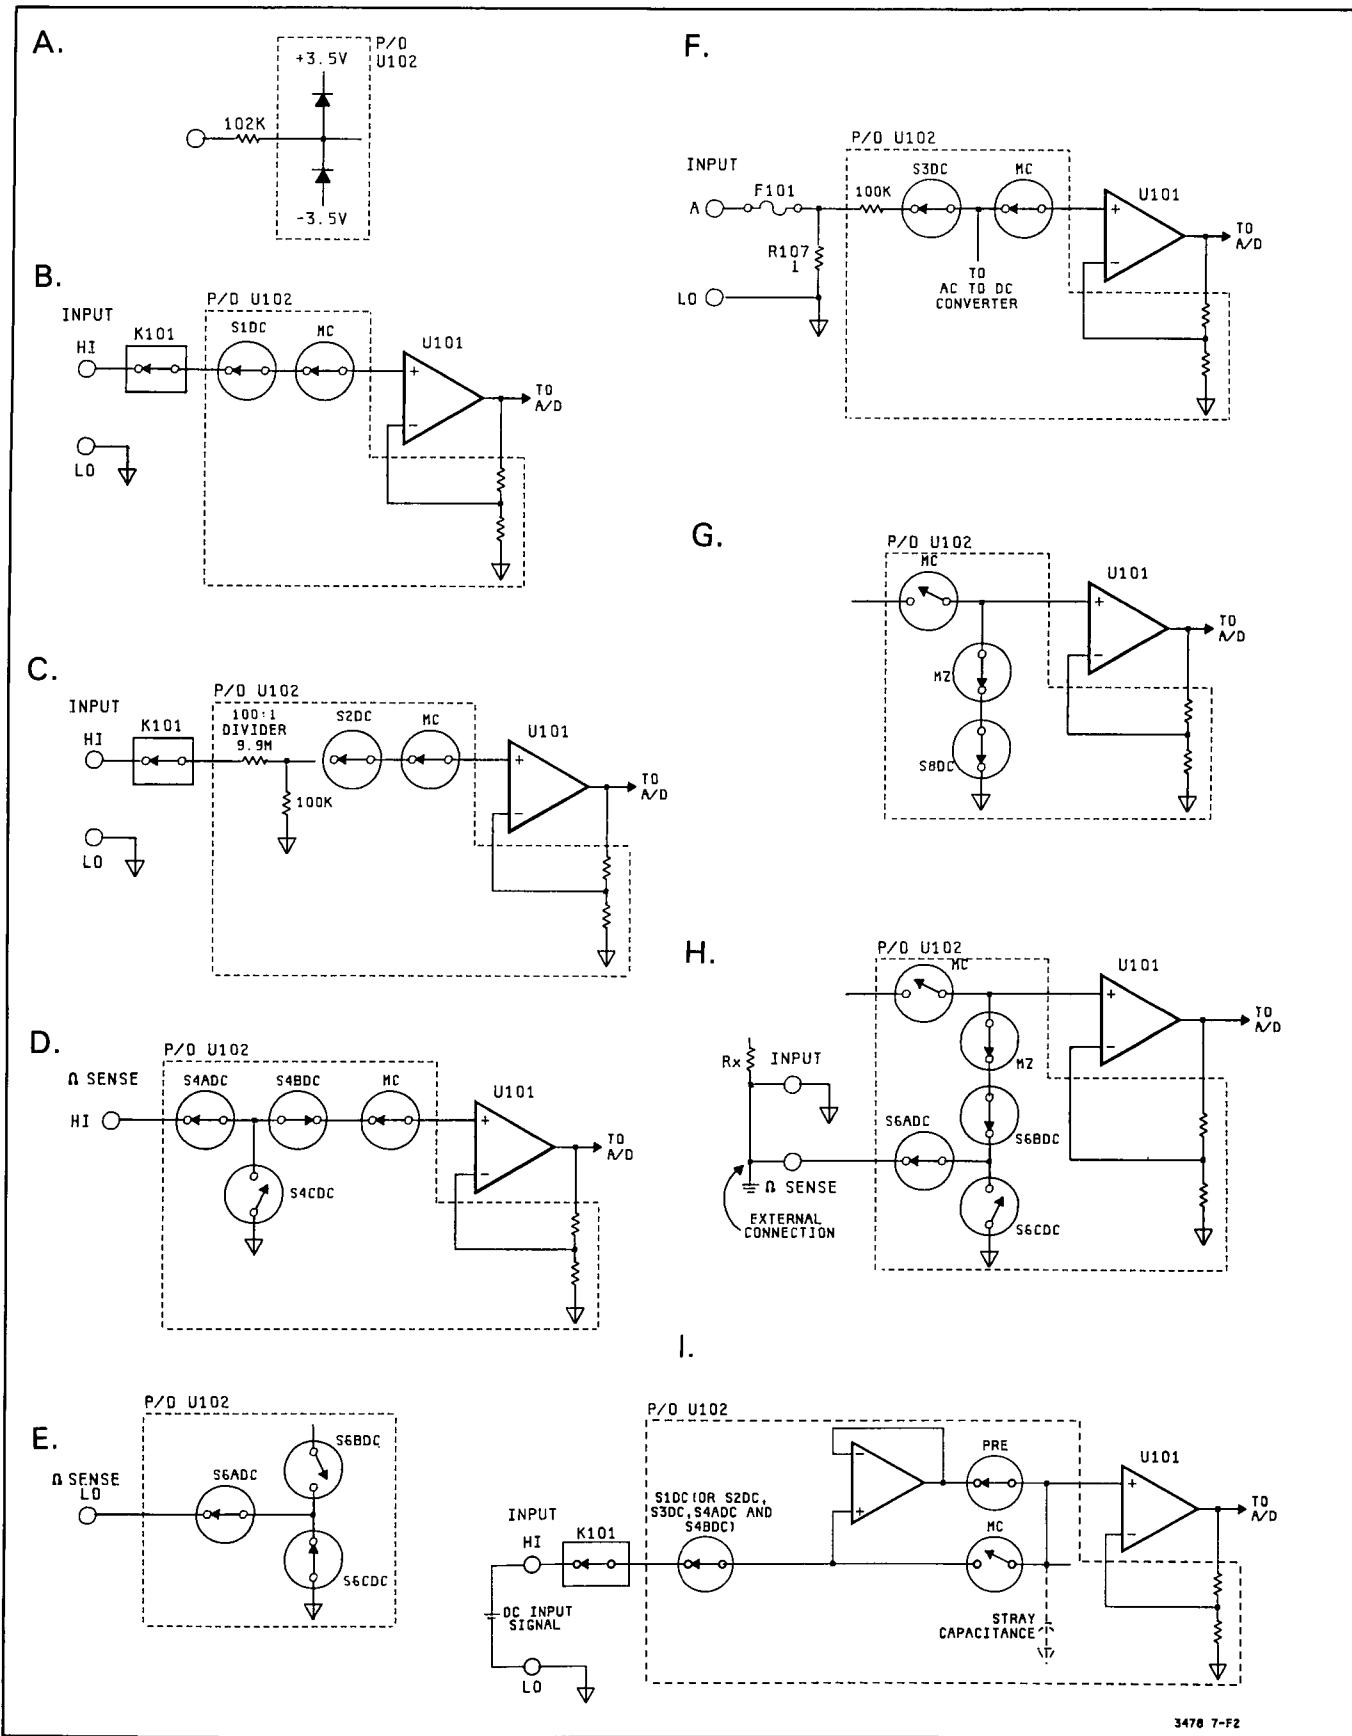

Figure 7-F-2. Simplified Schematic Of The Input Switching Circuitry
b. **Low Voltage Protection.** This circuit consists of diodes connected to the individual input nodes (part of the HI INPUT, LO INPUT, A INPUT Paths, etc.). The diodes on each node are connected (internally in U102) to + 3.5V and -3.5V power supplies. If the voltage on a node exceeds either + 4.2V or -4.2V, a diode conducts and keeps the level on the node to the $\pm 4.2V$ levels. The difference between the high voltage at the input terminals and the voltage at the input nodes is dropped across the resistors which are in series with the diodes and input terminals (the low pass filter). Figure 7-F-2A shows a typical protection circuit.
7-F-13. **Input Switching.** The Input Switching Circuitry consists mostly of Relay and MOSFET switches, with most FET switches located in U102. The purposes of the switches are to provide five signal paths to the Input Amplifier and to connect the amplifier for a zero measurement (done in the Autozero Function; see paragraph 7-F-14). The switches are controlled by circuits in U102 which receive their control information from the A/D Controller. The following explains the various input paths. Refer to Figure 7-F-2 and Schematic 1 for the explanation.
a. **Low Voltage Range Input Path (Figure 7-F-2B).** The path consists of K101, R103, R104, R110, and S1DC (S1DC is in U102). The purpose of the path is to connect the HI INPUT Terminal (high input voltage) to the DC/Ohms Input Amplifier. The path is used only in the 30mV through 3V dc volts Ranges and all Ohms Ranges.
b. **High Voltage Range Input Path (Figure 7-F-2C).** The path consists of R110, K102, S2DC (in 102), and a 100:1 divider (9.9M ohm and 100K ohm resistors, RD99 and RD98, in U102). The purpose of the path is to attenuate input voltages by a factor of 100 and to connect the attenuated voltage to the DC/Ohms Input Amplifier. The path is used only in the 30V and 300V dc volts Ranges.
c. **Ohms High Sense Path (Figure 7-F-2D).** This path consists of R105, R106, and S4ADC and S4BDC (S4ADC and S4BDC are in U102). The path connects the HI OHMS SENSE Terminal (high ohms input) to the DC/Ohms Input Amplifier, only when the 3478A is in the 4-Wire Ohms Function. Switch S4CDC (which is also part of the path) is used to connect the junction of S4ADC and S4BDC to ground. Switch S4CDC is closed in all functions except the 4-Wire Ohms Function and shunts any possible voltage on the S4ADC and S4BDC junction to ground.
d. Ohms Low Sense Path (Figure 7-F-2E). This path consists of R101, R102, and S6ADC and S6CDC (S6ADC and S6CDC are in U102). The path is used to connect the LO OHMS SENSE Input Terminal (low ohms input) to ground (LO INPUT Terminal), when the 3478A is in the 4-Wire Ohms Function. In the 2-Wire Ohms Function, the low ohms input is the LO INPUT Terminal (which is connected to ground).
e. Current Input Path (Figure 7-F-2F). This path includes R107 and S3DC (in U102). The voltage drop across R107 (which is generated by the current being measured) is connected through S3DC to the DC/Ohms Input Amplifier. This path is used only in the DC Current Function.
a. Autozero (in the DC Volts, DC Current, and 2-Wire Ohms Functions). In the DC Volts, DC Current, and 2-Wire Ohms Functions, the zero measurement is made with switch MC (measure customer) open, and switch MZ (measure zero) and S8DC closed (see Figure 7-F-2G). Switch S8DC and MZ connects the DC/Ohms Input Amplifier to ground through a 102K ohm resistor. After the zero measurement is made, switch S8DC and MZ opens, and switch MC closes for the input measurement. (Note: MOSFET switches MC, MZ, and S8DC are in U102.)